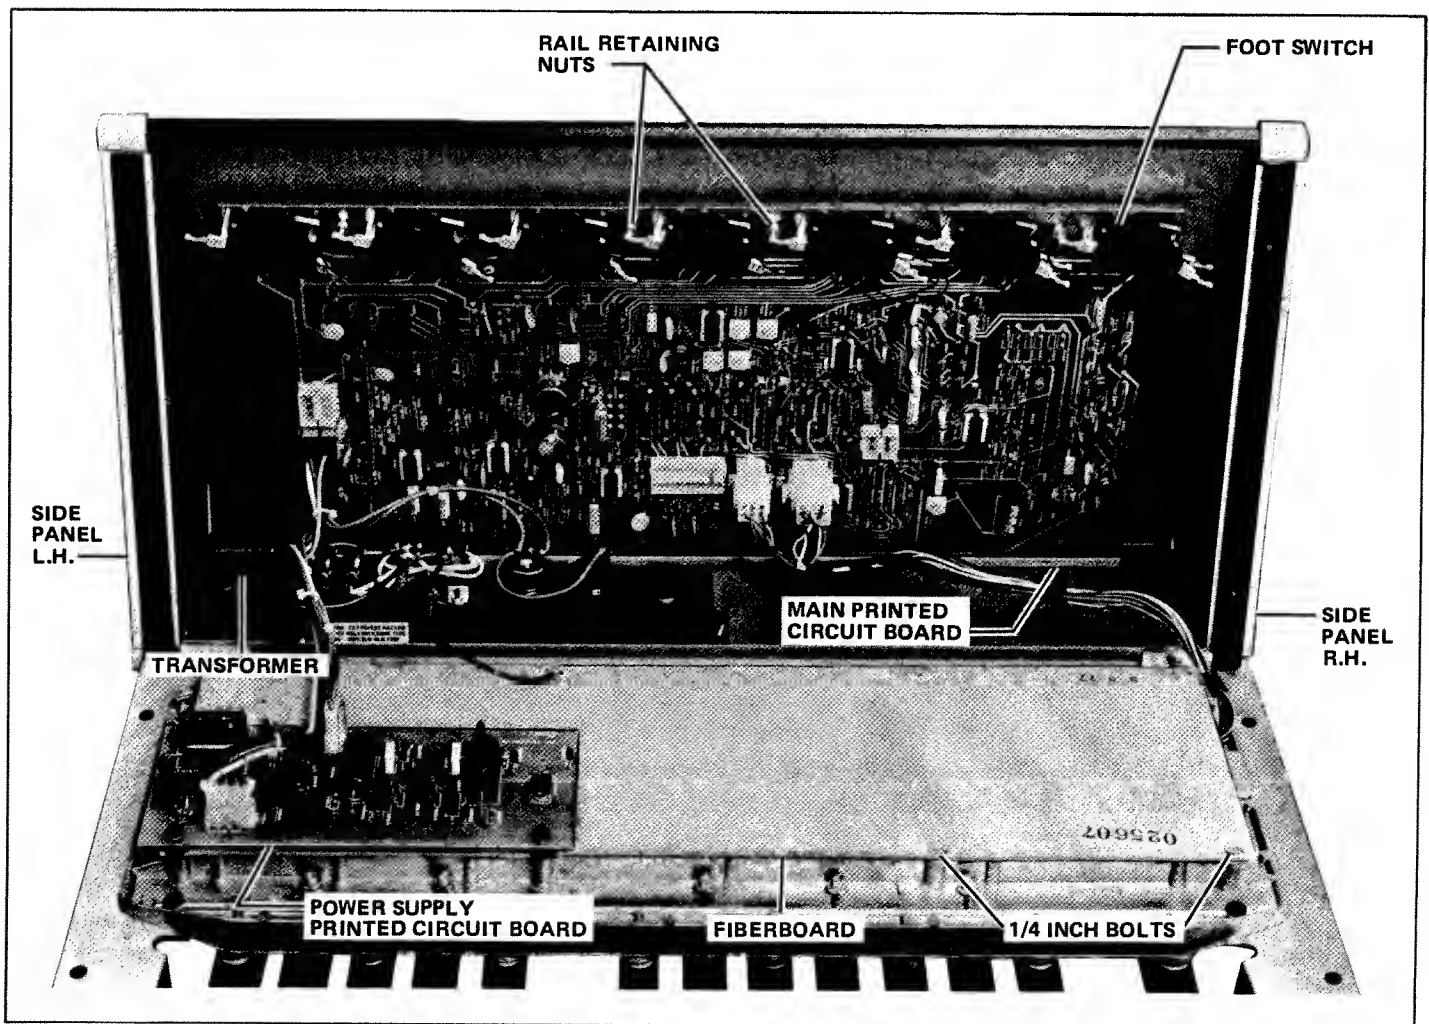

FIGURE 3-1 TAURUS WITH FOOT PEDAL AND SHELL HOUSING SEPARATED
c) With foot pedal and shell housing now separated, open unit and lean both parts together to form a "L" shape as shown on Figure 3-1.
#### 3.2 PRINTED CIRCUIT BOARD DISASSEMBLY (Figure 3-1)
### 3.4 FOOT PEDAL CONTACT REMOVAL (Figure 3-1 and 3-2)